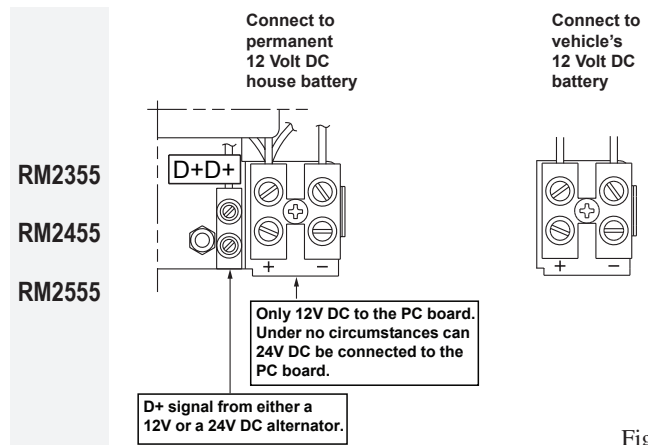

Fig. 19
**RM2355, RM2455 and RM2555:** One terminal is marked "Connect to permanent 12 Volt DC house battery" and the other "Connect to Vehicle 12 Volt DC battery", see Fig. 19.